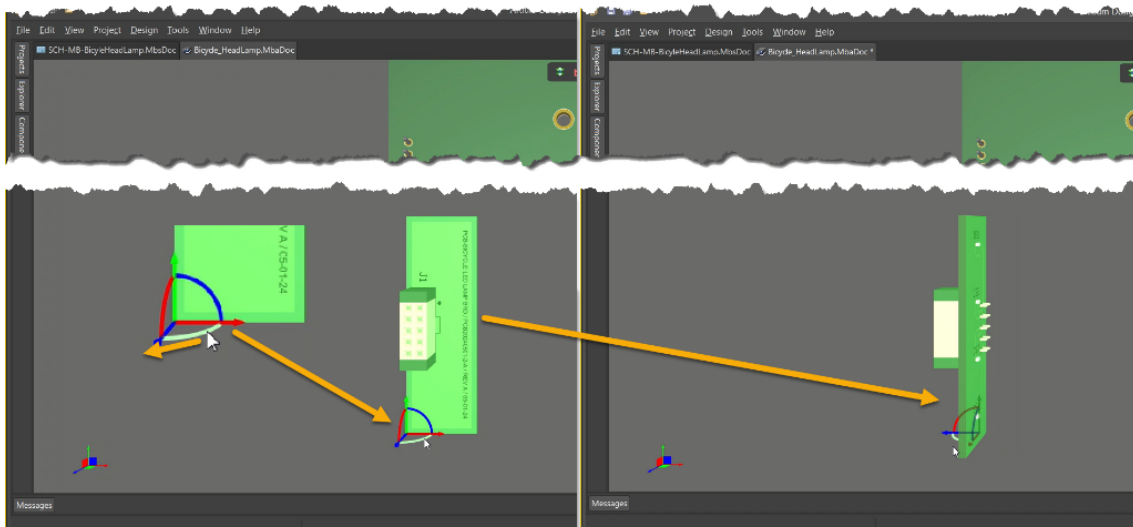

Figure 25. Board flipped upward by 90°
58. First, orient the J1 connector in the same plane as the J1 connector, as the larger main board. To do this, select the green arc with a left mouse, click and drag to the right until you notice a lock movement of 90°. Results should look like Figure 25.